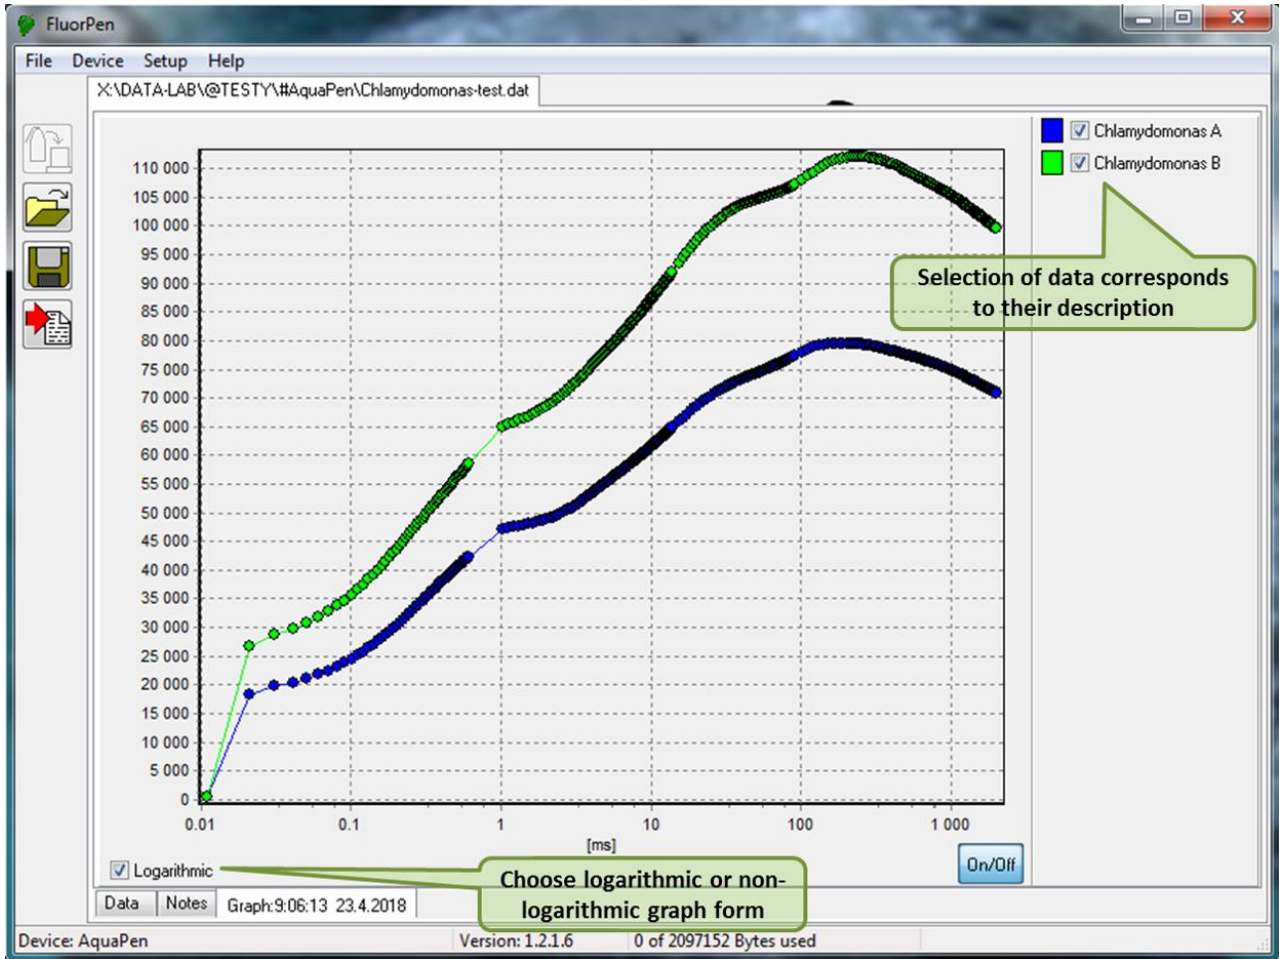

Fig. 21 Graphic visualization of experiment.
5. The selected set of data will be shown on the Graph (Fig. 21).